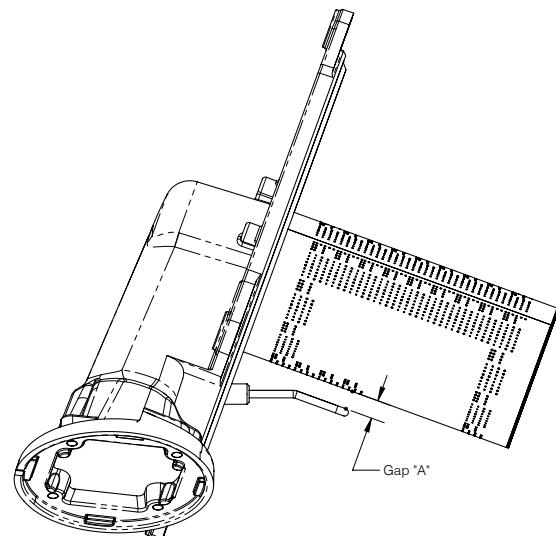

Figure 18-3: Ignitor/Flame Sensor to Burner Gap
- Verify gap between ignitor/flame sensor and burner is within range shown in Figure 18-3 and Table 18-4.